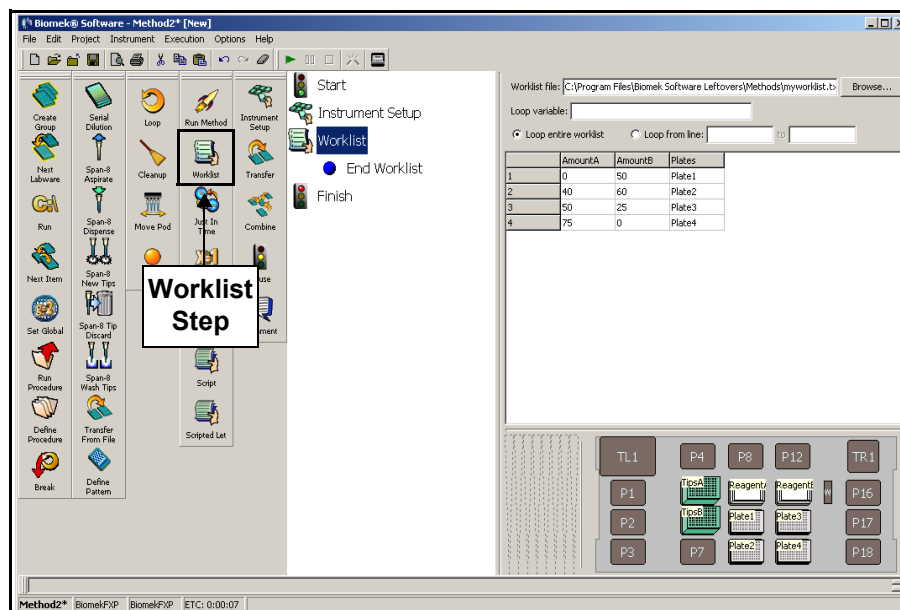

Figure 8-3. Worklist step with text file displayed
2. Drag and drop a **Worklist** step (Figure 8-3) into the Method View below the Instrument Setup step.
- Make sure **Loop entire worklist** is selected. This ensures that all the values contained in the worklist are used. The Worklist step configuration should look like Figure 8-3.